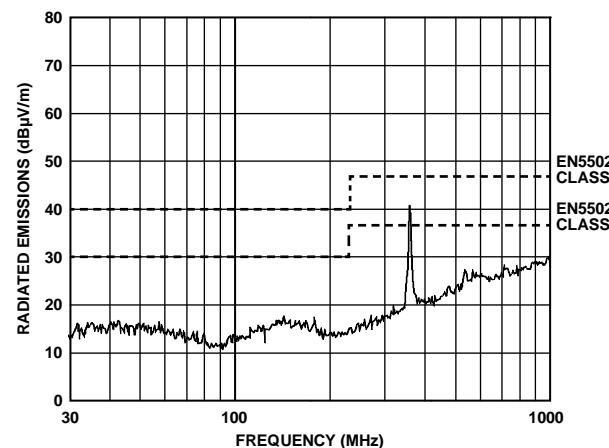

Figure 4. Horizontal Scan from 30 MHz to 1000 MHz
The **EVAL-ADM2582EEMIZ** and **EVAL-ADM2587EEMIZ** evaluation boards are configured and tested with 3.3 V V_{CC} or 5.0 V V_{CC} power supplied to the **ADM2582E** and **ADM2587E** devices, with the power supplied from the **ADP667ARZ** regulator output to V_{CC} (Pin 8). The **ADP667ARZ** regulator input is supplied from a standard 9 V battery. All EN55022 radiated emissions testing is performed with 9 V batteries. Testing is performed at 500 kbps clock (**ADM2587E**) or 16 Mbps clock (**ADM2582E**), with the clock supplied by the on-board oscillator. The **ADM2587E/ADM2582E** transceiver is connected in full-duplex mode and the bus pins are loaded with a $54\ \Omega$ termination resistor (maximum bus loading). Measurements are carried out in an anechoic chamber at 10 m from 30 MHz to 2 GHz. Figure 4 to Figure 9 show the results of the worst case horizontal scans and Table 3 to Table 8 show the tabulated quasi-peak (QP) results.